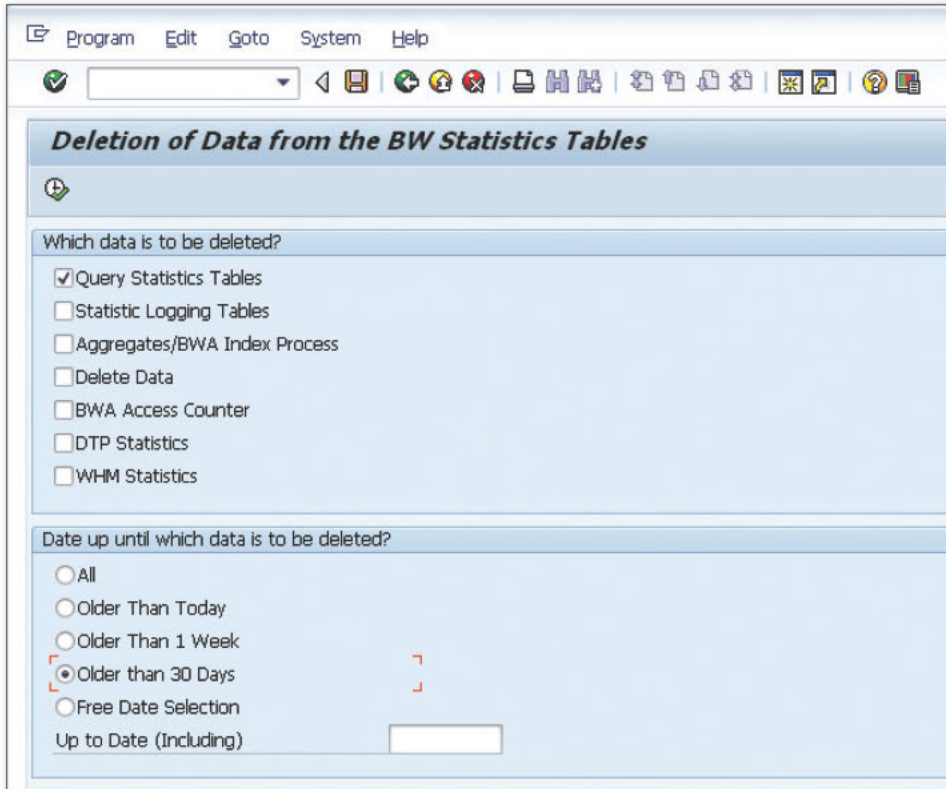

Figure 3 Specifying Criteria for Deletion of Statistics Data
2. Enter the program name RSDDSTAT_DATA_DELETE and click EXECUTE. The resulting screen is displayed as shown in Figure 3.